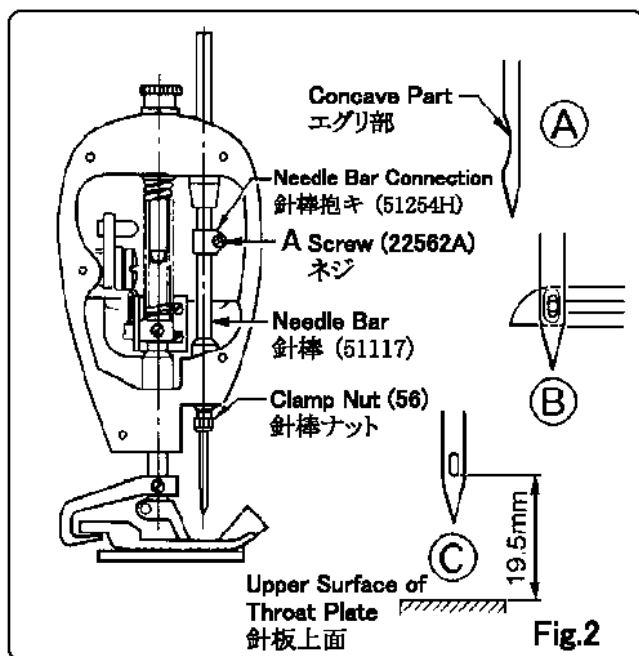

Fig.2
4-1 Needle Setting (Fig.2)
Insert a new needle into needle bar as deep as it will go. The concave part of needle should be faced to rear side of stitching direction. Then, tighten the needle bar nut firmly to avoid loosening of needle. (Fig.2)Ⓐ
- For your reference, it is the easiest manner to adjust the distance between upper surface of throat plate and the lowest point of needle hole to be 19.5mm when needle goes up to the highest point. (Fig.2)Ⓒ
b) Needle Height (Fig.2)
Adjust the height of needle bar so that the needle hole can accord with looper hole when the left edge of looper is passing rear side of needle. The adjustment is to be done by moving needle bar up-and-down after loosening the screw A of needle bar holder. (Fig.2)Ⓑ
針の取付け (Fig.2)
- 針のえぐりを(針穴近くの凹んでいる部分を)袋の進行方向に向けて取付けてください。(Fig.2) Ⓐ
- 針が最も上がった位置で、針板から針穴の下面までの寸法を 19.5mm にあわせるとルーパールの調整のとき簡単です。(Fig.2) Ⓒ
ルーパールが前進して、ルーパールの先端が針の後ろを通過するとき、ルーパールの穴と針穴が一致するように針棒の高さを調整してください。(Fig.2) Ⓑ